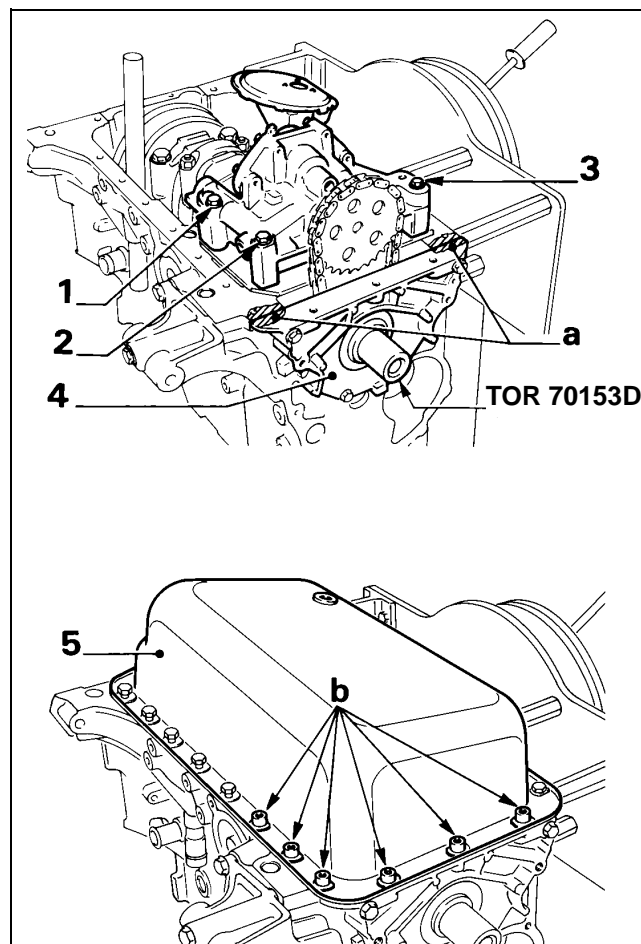

Figure 81
3. Install the special shoulder bolt (Fig. 81, Item 1) to center the pump in the proper location.